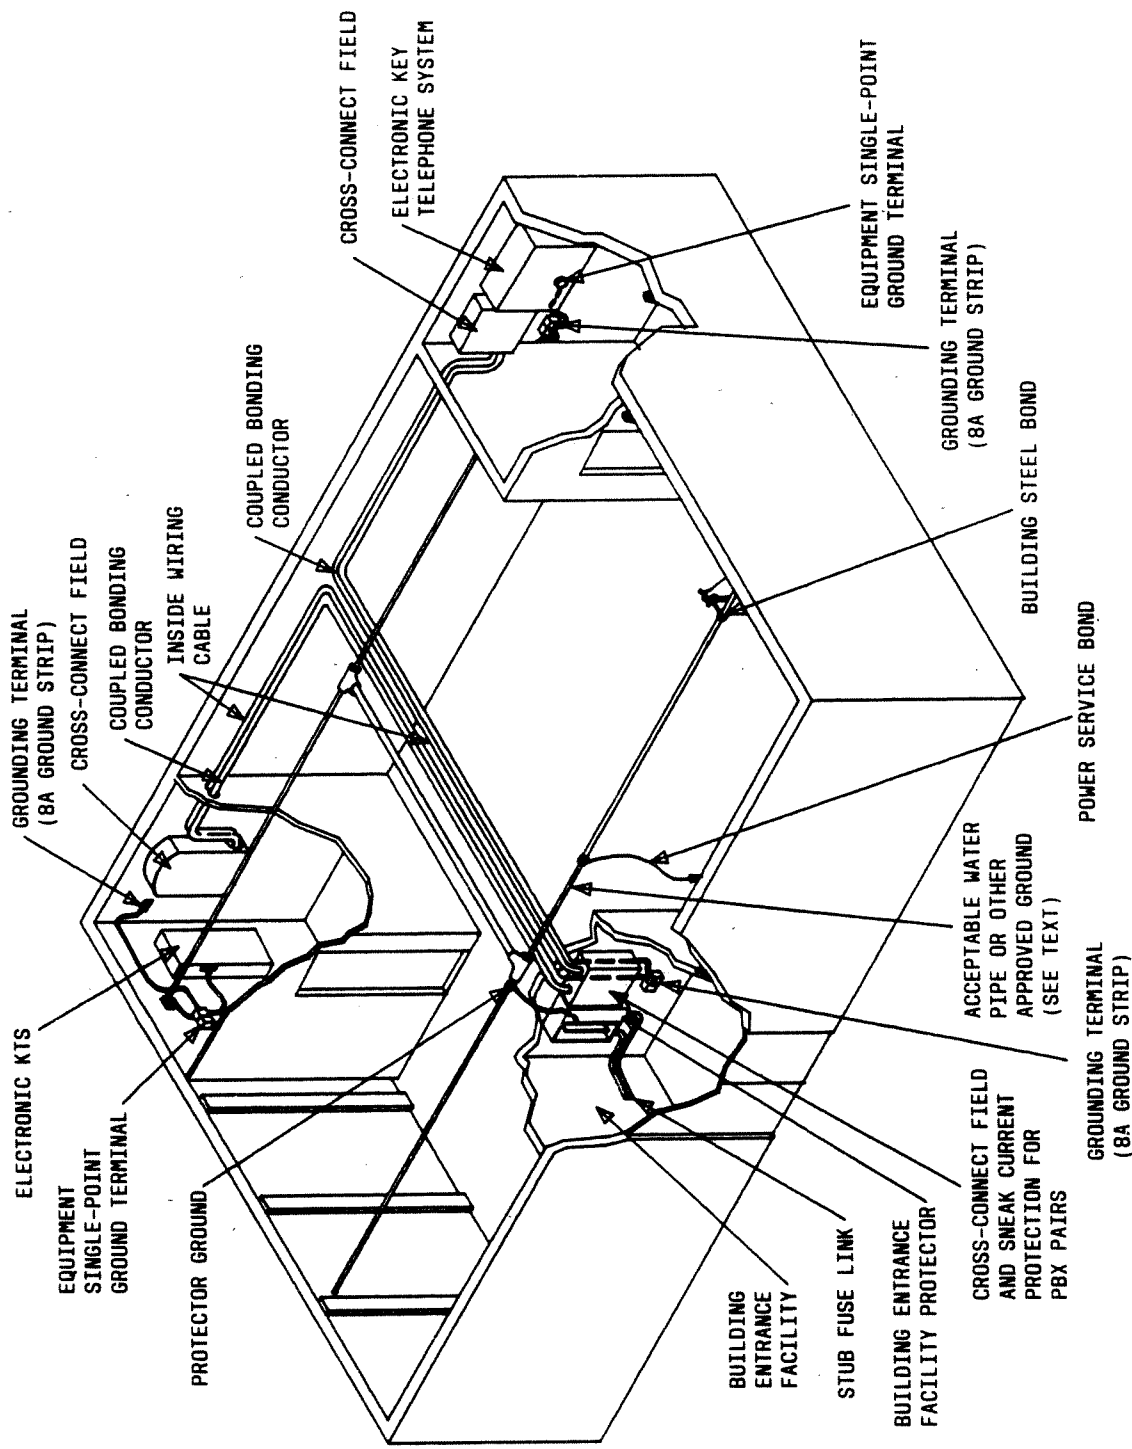

Fig. 3—Equipment Bonding—Typical Low-Wide Building
2.05 Low-Wide Buildings: Low-wide buildings should also have coupled bonding conductors extended to all apparatus rooms from the building entrance facility. Use of the 8A ground strip is again recommended at all centralized KTS locations (Fig. 3).